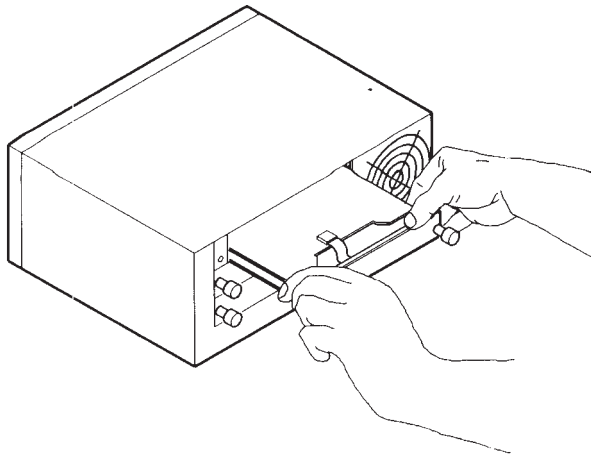

Figure 5-5.
- d. Keeping the graphics card slightly ahead of the video card, slide the cards into adjacent accessory slots as shown in Figure 5-5.